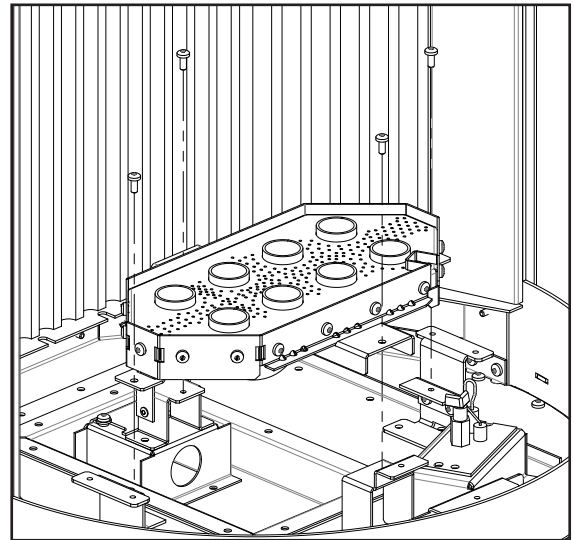

Figure 44: Burner Removal
Remove the four (4) screws securing the burner pan using a T20 screwdriver. Rotate the burner upward and lift out (see Figure 44).